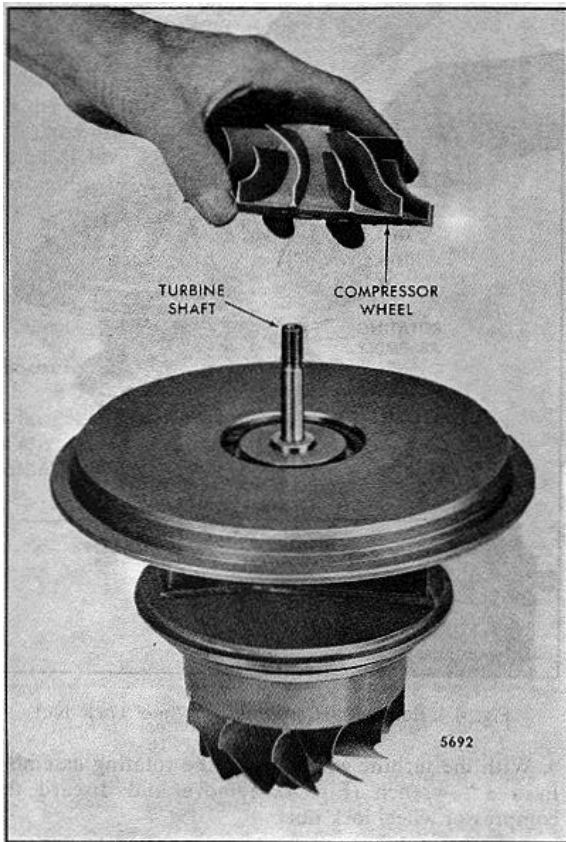

FIG. 5 Removing Compressor Wheel from Turbine Shaft
- a. Clean the area and disconnect the oil inlet (supply) line at the bearing (center) housing (Fig. 5).
5. Remove the compressor wheel from the turbine shaft assembly by hand (Fig. 5). The wheel is a slip fit on the shaft.